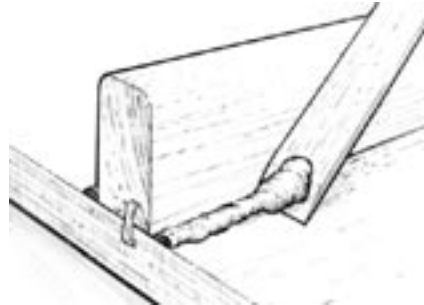

Figure 9-11 Remove excess epoxy before it begins to gel. A sharpened mixing stick makes an excellent cleanup tool.
4. Remove or shape excess adhesive that squeezes from the joint as soon as the joint is secured with clamps. A wooden mixing stick with one end sanded to a chisel edge is an ideal tool for removing the excess (*Figure 9-11*).